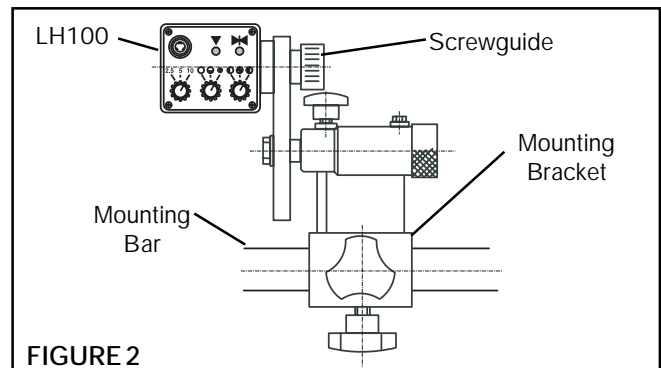

FIGURE 2
1. Secure the Mounting Bracket to a customer supplied mounting bar (See Figure 2).